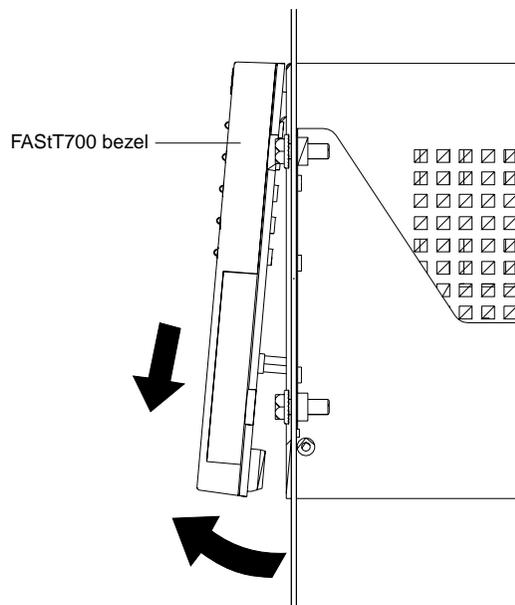

Figure 20. Removing the FAStT700 Storage Server bezel
To access the controllers, battery, storage server fan, and indicator lights, you must remove the FAStT700 Storage Server bezel, as shown in Figure 20.
1. Carefully pull the bottom of the bezel out to release the pins; then slide the bezel down, as shown in Figure 20.
Note: To view the RAID controller indicator lights, remove the FAStT700 Storage Server bezel, as shown in Figure 20 on page 14.
Note: To view the battery indicator lights, remove the FAStT700 Storage Server bezel, as shown in Figure 20 on page 14.